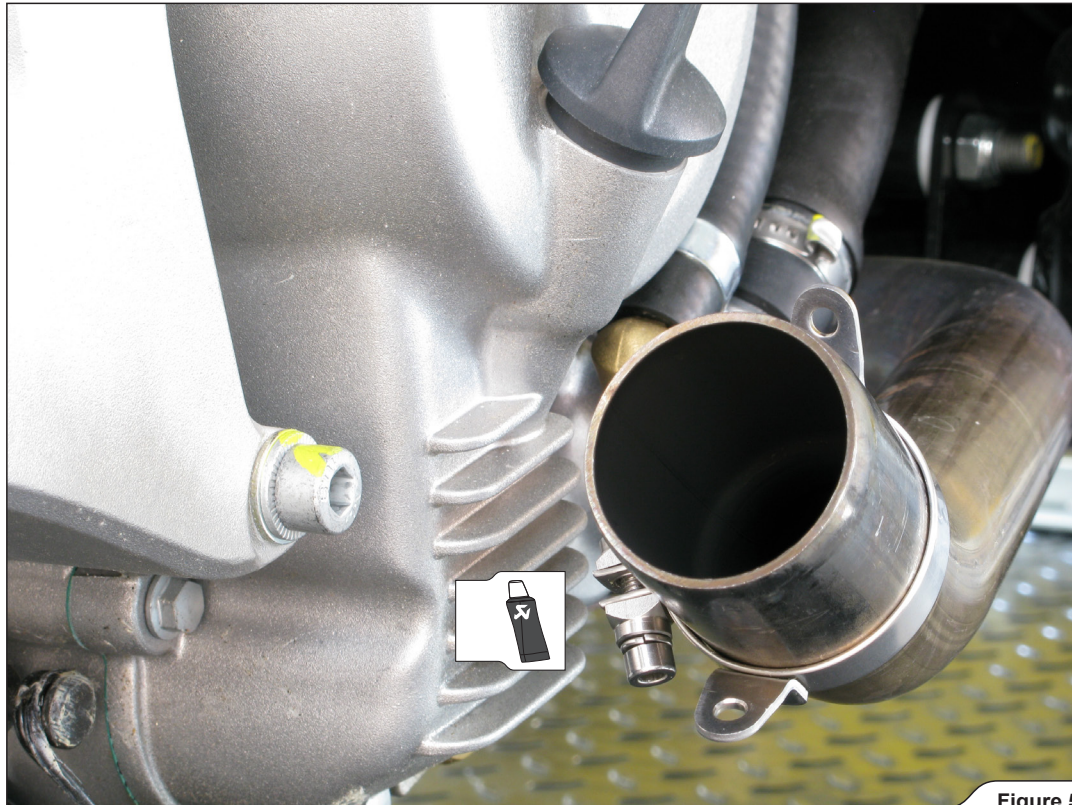

Figure 5
3. Correctly orient and slide the Akrapovič clamp with hooks onto the stock header pipe, as shown (Figure 5).